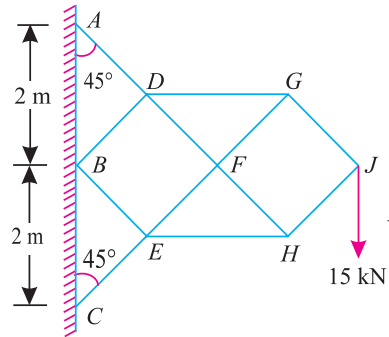

Fig. 14.29.
**Example 14.12.** A cantilever truss shown in Fig. 14.29 is carrying a point load of 15 kN .